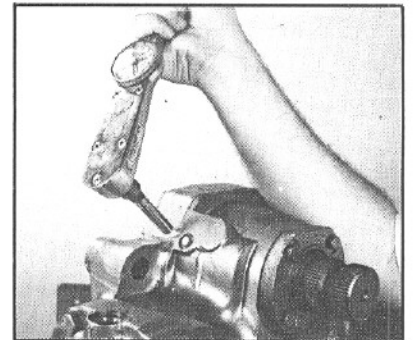

Figure 148
46. If your gear is equipped with the manual bleed screw (20A), install it into the gear housing (20) and torque it to 27-33 in. lbs. (FIG 148).
The above procedures should remove all the air from the steering system, unless the gear is mounted in an inverted position and is equipped with the manual bleed screw (20A) (See FIG. 148, Page 43). If this is so, refer to step 4.